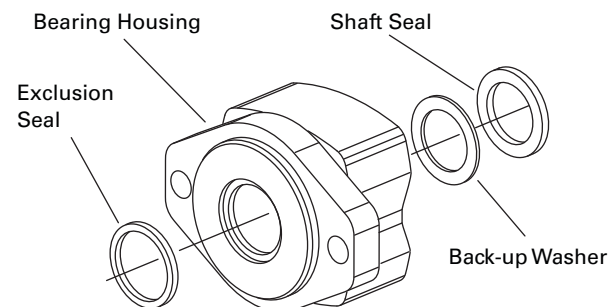

Figure 10.
20. Use a small screwdriver to remove shaft seal, back-up washer and exclusion seal from bearing housing, see Figure 10. Do not damage bore of housing.